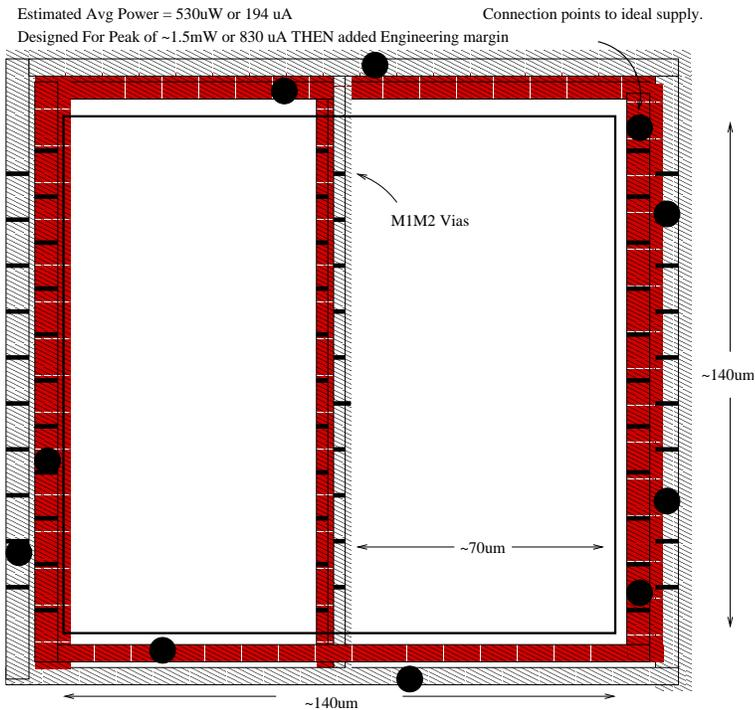

Figure 12: A powerplan with a ring and plenty of safety margin.
- There are tools available for more detailed analysis. Having used these relatively ballpark figures, as shown in Figure 12, we should add even more margin to the design — we'll add a power ring, with a width of  $2 \times 0.66\text{um}$ , and make multiple connections to the ideal supplies.